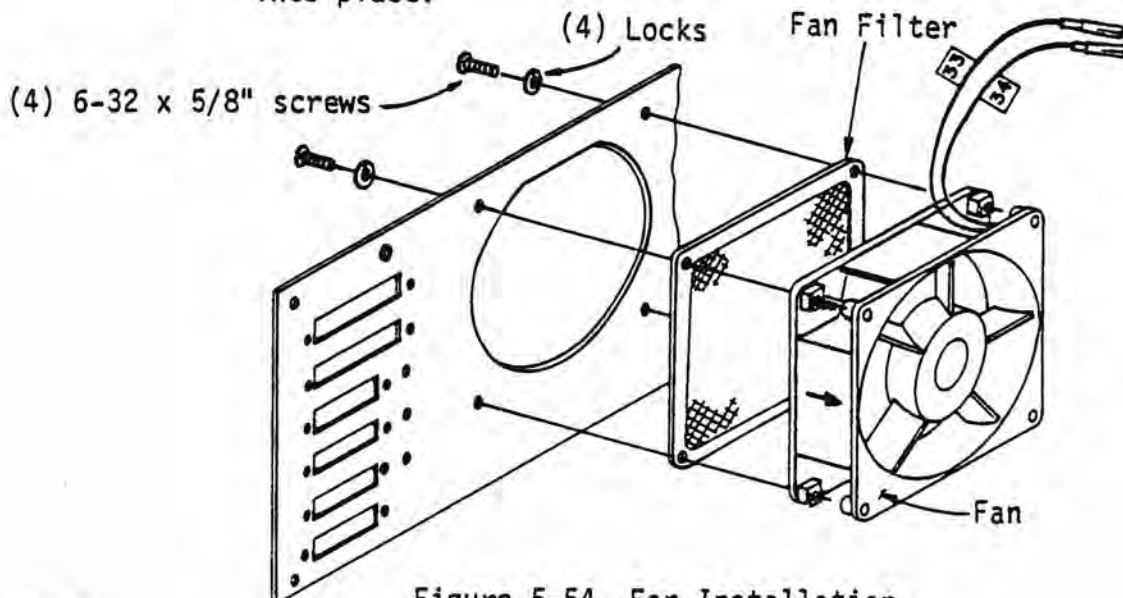

Figure 5-54 Fan Installation
4. Attach the wire leading from the positive (+) pole of the capacitor to terminal #3 (8V) on the power supply board. (See wiring diagram Figure 5-54.)
3. Mount the fan and screen (Figure 5-54) to the back panel. The air flow arrow should point toward what will be the interior of the computer. The plug should be in the lower right corner. Use 4 #6-32 x 5/8" screw and 4 #6 snap-on nuts.